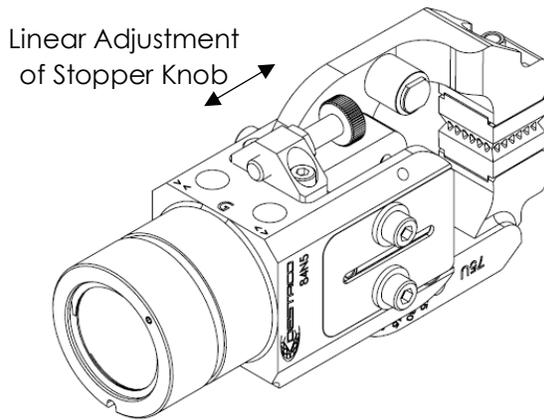
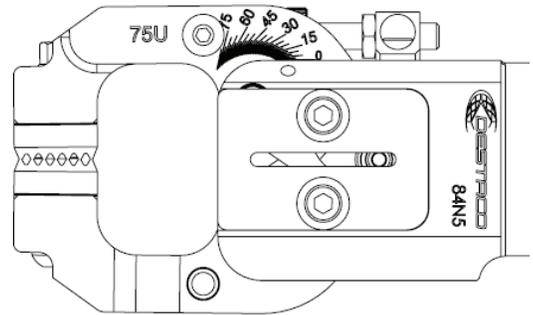

Fig.20
Fig.21
8. Rotate the Stopper Knob by hand to move it linearly until the required opening angle of jaw is obtained (see Fig.20). The angle (0° to 75°) is etched on the jaw surface for reference (see Fig.21).